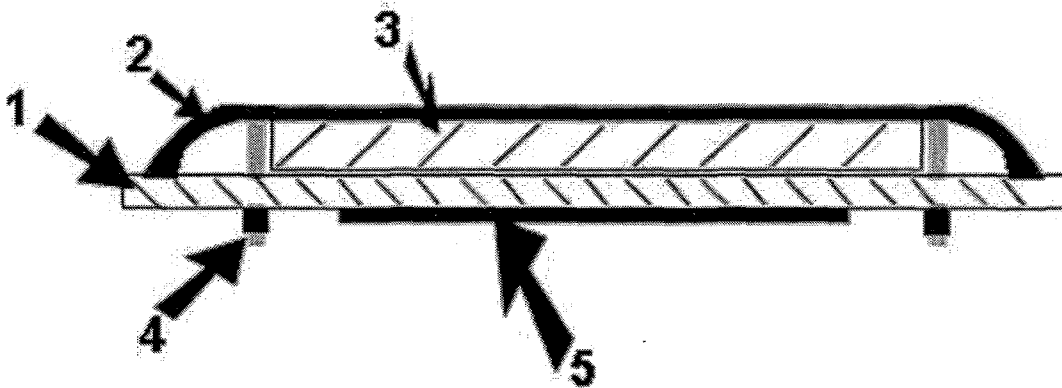
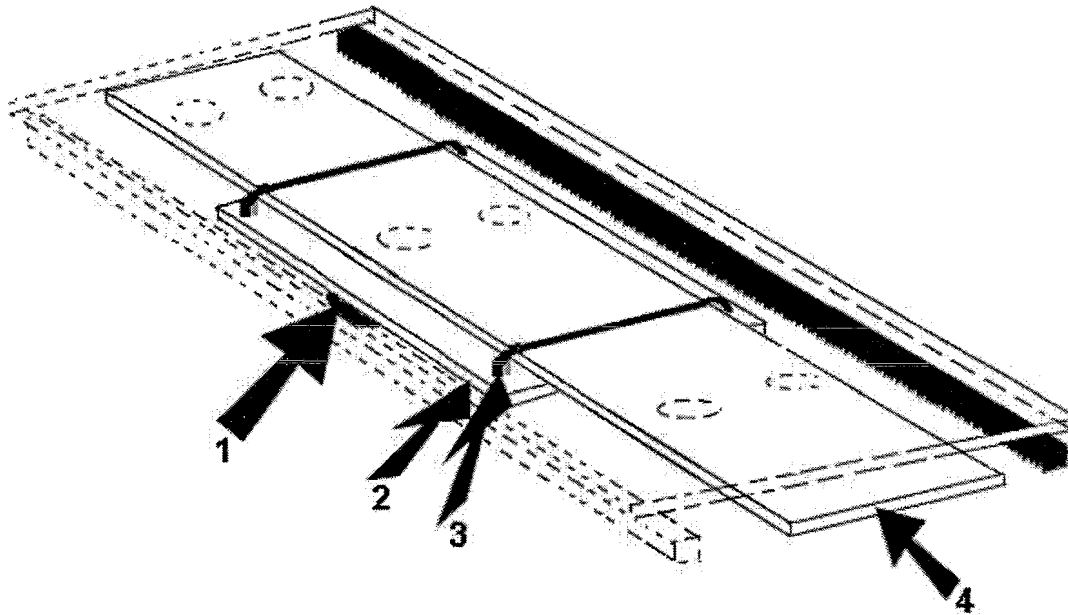

Figure 5.3: Side view 1) ground plate 2) support arm 3) track
Figure 5.4: Overview 1) cleat 2) ground plate 3) support arm
- 2) Next maneuver the 2 support arms (nr 2 figure 5.3 and nr 3 figure 5.4) on top of the track.
- 3) Attach the ground plate with the cleat to the support arms. This is done with 4 bolts (Nr 4 figure 5.3).